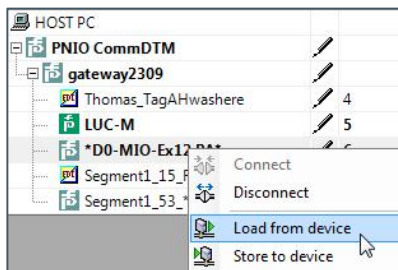

Figure 58: Load parameters from device to software
- 1) After the network participants are online, right-click the intended gateway or PROFIBUS PA device such as the Multi-Input/Output Device ***D0-MIO-Ex12.PA** for the example 2. Then select **Load from device**. This will load the hardware parameters to the program (see: Figure 58: Load parameters from device to software).